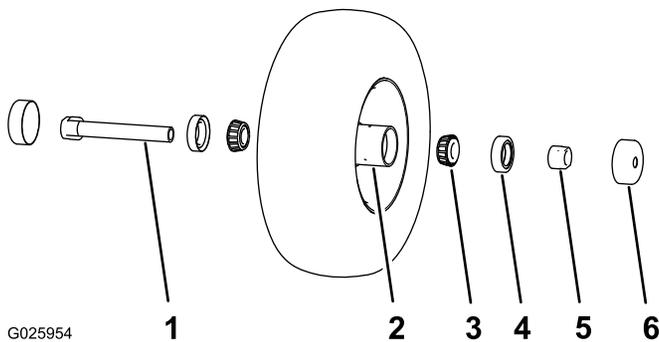

Figure 29
1. Remove the 2 seal guards from the wheel hub (Figure 29).
2. Remove 1 of the spacer nuts from the axle assembly in the caster wheel (Figure 29).
Note: Note that thread locking adhesive has been applied to lock the spacer nuts to the axle (Figure 29).
3. Remove the axle (with the other spacer nut still assembled to it) from the caster-wheel assembly (Figure 29).
4. Pry out both of the bearing seals (Figure 29).
5. Remove both of the bearings and inspect each one for wear or damage (Figure 29).
1. Install 1 bearing into the hub of the wheel (Figure 29).
2. Install the bearing seal into the hub at the bearing (Figure 29).
- C. Thread the axle nut, with the wrench flats facing outward, onto the end of the axle that is prepared with thread-locking compound (Figure 29).
4. Insert the assembled nut and axle into the wheel at the side of the wheel with the new seal and bearing (Figure 29).
6. Install the other bearing and new seal into the wheel (Figure 29).
9. Install the seal guards over the wheel hub (Figure 29).